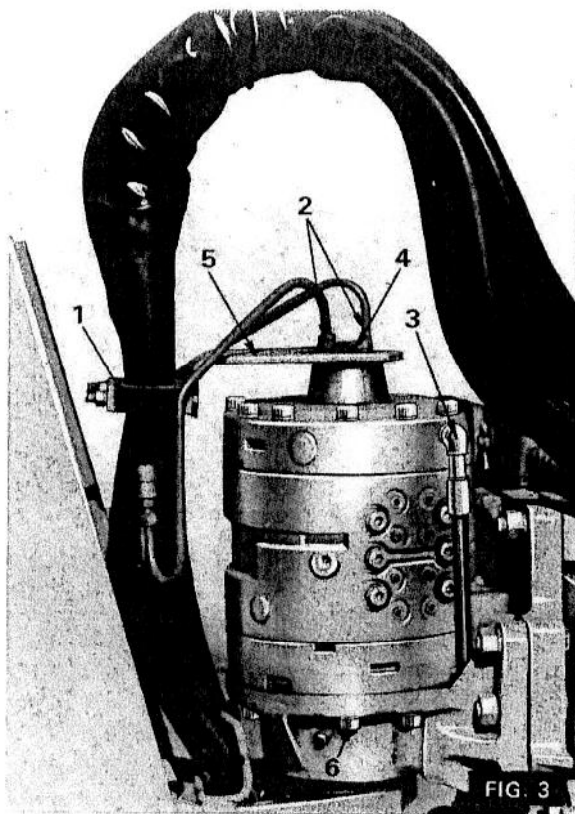
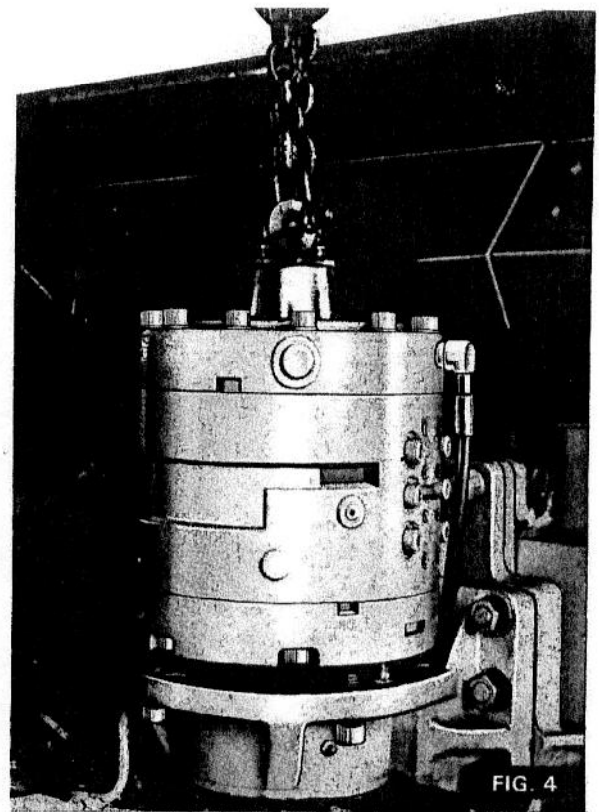

FIG. 3
FIG. 4
2. (Fig. 3) Remove the outer half of the hose clamp (1).
3. Disconnect the two hydraulic connections (2).
4. Disconnect the anti cavitation pipe (3).
5. Extract the two securing bolts (4) and remove the bracket (5).
6. Unscrew the six bolts (6) from the underside of the actuator.
7. (Fig. 4) Screw three bolts (1) into the three equi-spaced threaded holes in the actuator attachment flange until the bolts 'bottom' against the base of the actuator.
3. (Fig. 3) Check that the splines and locating dowels are correctly located and engaged, then tighten the six attachment bolts (6).
4. Remove the eyebolt, replace the bracket (5) and secure with two screws (4).
5. Reconnect the anti-cavitation hose (3).
6. Reconnect the hydraulic connections (2).
7. Re-clamp the hydraulic hoses by replacing the outer half of the clamp (1).